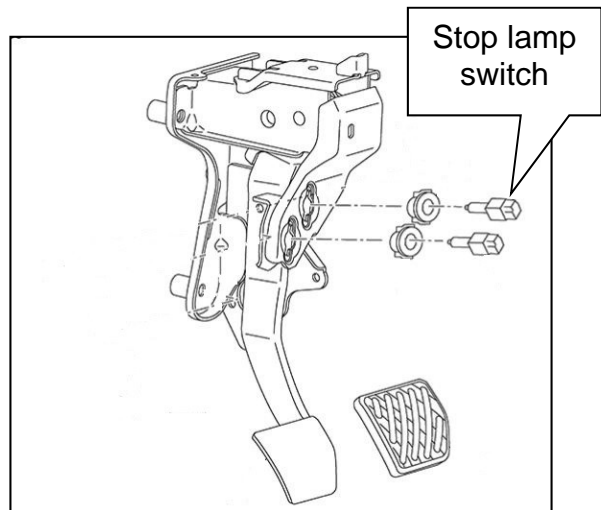

Figure 1
**HINT:** The stop lamp switch is the upper of the 2 switches, as shown in Figure 1.